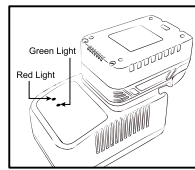

Fig. 2
4. Connect the charger to a power outlet . Place the battery pack in the charger aligning raised rib on the battery pack with the groove in the charger . (Fig . 2)